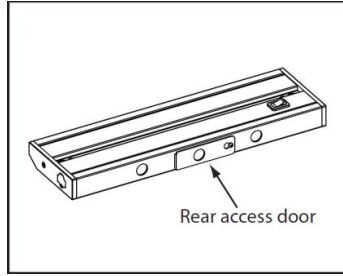

FIGURE 1
- A)** Feed supply wires through rear access door and make electrical connections. The rear access door is located on the backside of the housing with its own knockout for making quick wiring connections to the supply wires. This forgoes the need to remove the lens cover and open the wiring compartment. (Figure 1)